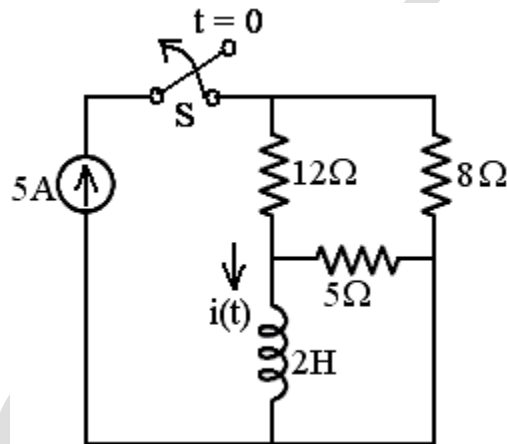

Fig.1
- 1.a) Find  $i(t)$  for  $t > 0$  for the circuit shown in Fig.1. When the switch is opened at  $t = 0$ .